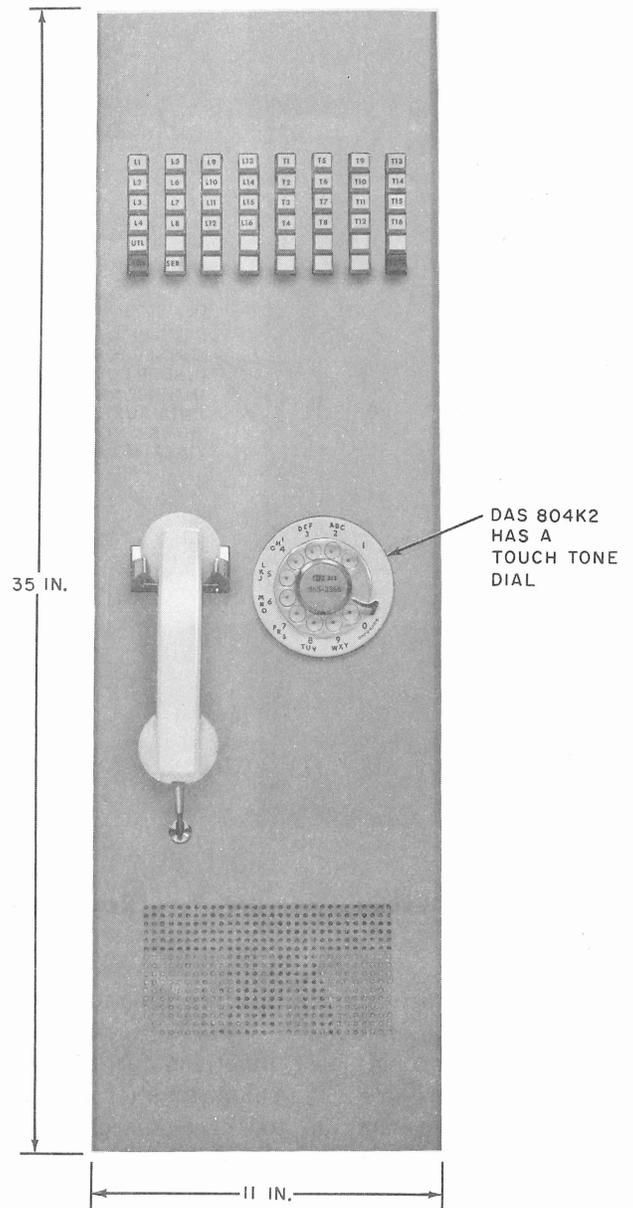
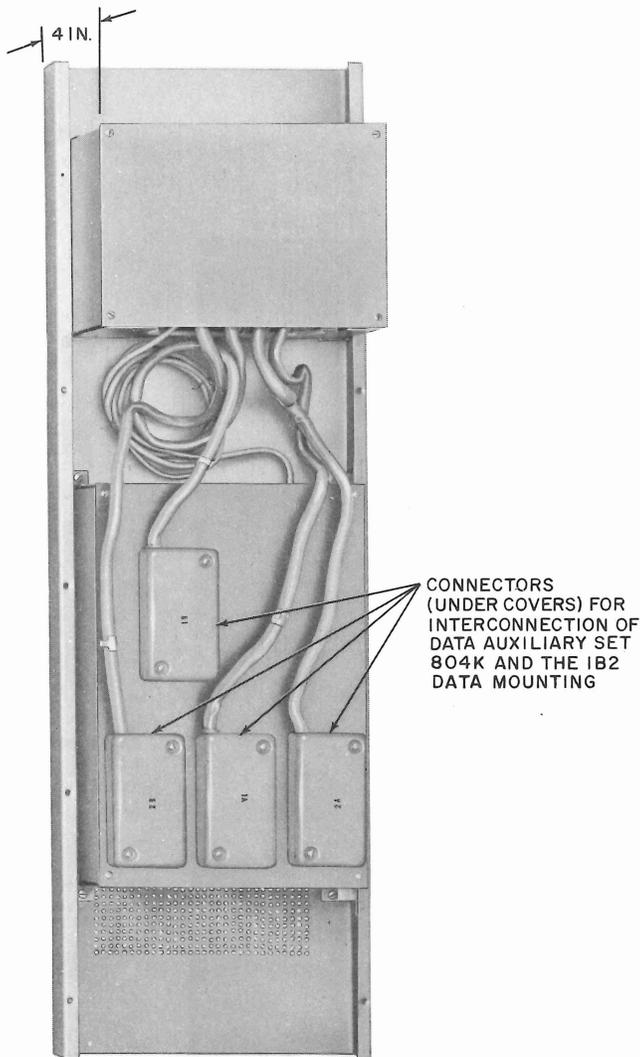

Fig. 1—Data Auxiliary Set 804K1 Front View
Fig. 2—Data Auxiliary Set 804K Type Rear View
2.02 Four cords (two M50G—one 6 feet and one 18 feet and two M50F—one 6 feet and one 18 feet), are required for connecting the data auxiliary set to two 1B2 Data Mountings. The shorter cord is for interconnecting the DAS to the 1B2 Data Mounting at the front of the cabinet. The two longer cords are for interconnecting the DAS to a 1B2 Data Mounting at the rear of the cabinet. If a single 1B2 Data Mounting is used in conjunction with the auxiliary set only one of each of these cords are needed for the mounting. The auxiliary set weighs 25 pounds. Dimensions of the auxiliary set are shown in Fig. 1 and 2. Fig. 2 illustrates the rear of Data Auxiliary set 804K. The connectors for interconnecting the DAS and 1B2 Data mounting are located under the covers marked 1B, 2B and 1A, 2A.